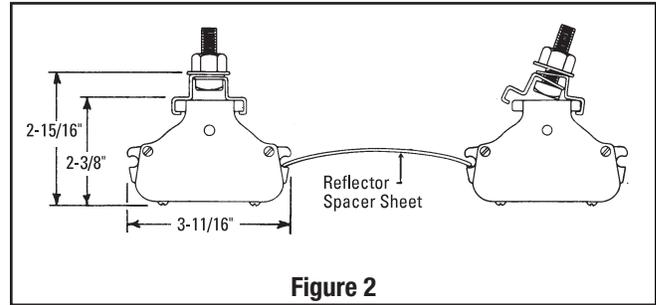

Figure 2
2. Mounting Clamps — Mount heaters by using the mounting clamp and 3/8" bolt assembly. Clamp assembly may be attached to heater by sliding over end or by snapping over top of extruded frame section at any point along its length. (see Fig. 2) For proper heater support, the maximum distance between clamps must not exceed 48". On extra-long heaters, more than two clamps are furnished.
5. Reflector Spacer Sheets — Where heaters are not mounted side by side (see Fig. 2), reflector spacer sheets can be used between heaters. These reflector spacer sheets and companion reflectors consisting of an extruded aluminum housing with reflector sheet and mounting clamps are available. Check factory.